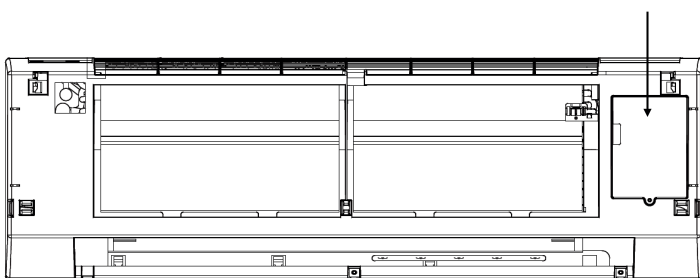

fig. 14
- Remove the terminal block protection door (“fig. 14”)